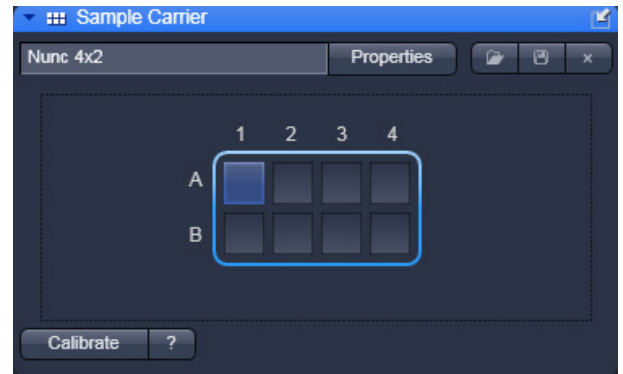

Fig. 273 Sample Carrier panel
- Click on the **Sample carrier** tool tab to open the **Sample Carrier** panel (Fig. 273).